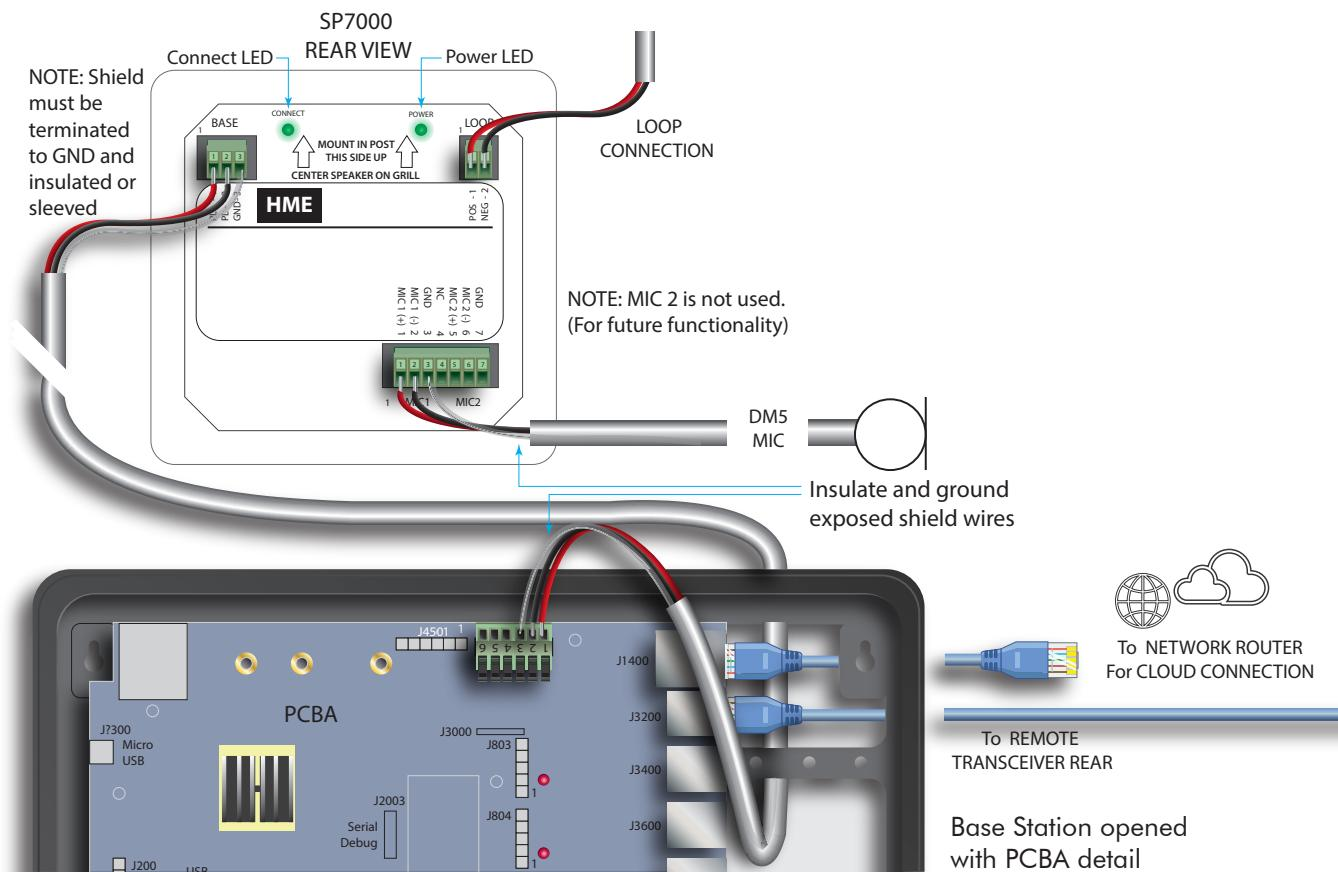

Fig. 11.4
4. The 2-pin LOOP connector connects to the ground loop detector. See Fig. 11.4.
5. The 3-pin BASE connector connects to J4500 on the base station PCBA. See Fig. 11.4 and Table 2.
6. The 7-pin MIC connector connects to the DM5 microphone. See Fig. 11.4 and Table 1.